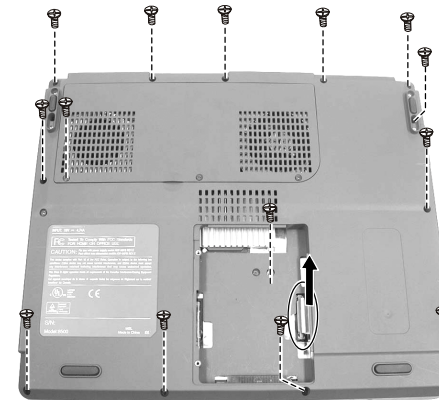

Figure 2-21 Remove the housing
3. Put it upside down. Remove fourteen screws on the bottom of the notebook and disconnect one cable. Then separate the housing. (Figure 2-21)